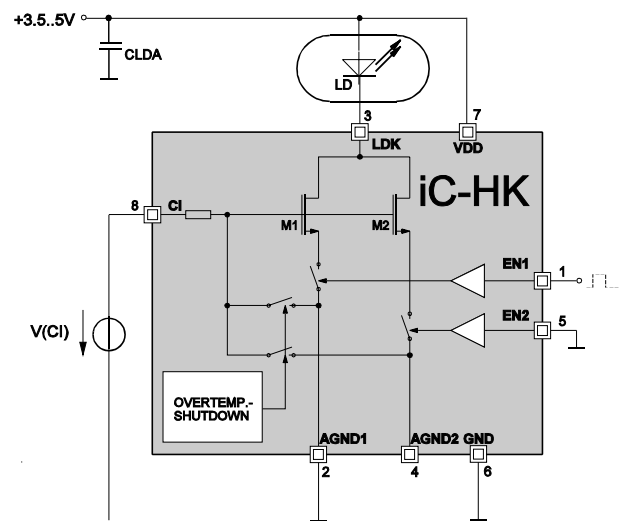
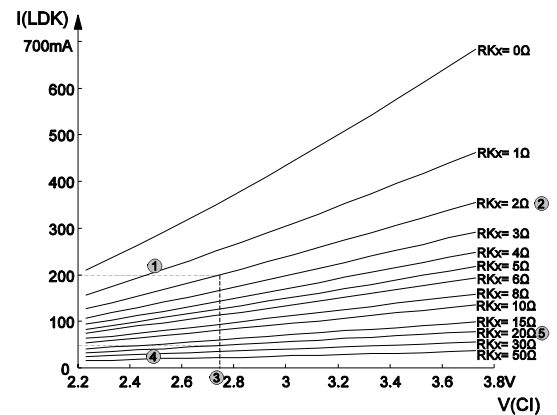

Fig. 3: Circuit with iC-HK for Example 1 - pulse current of 100mA
Fig. 4: Determining $V(CI)$ for Example 2 and 3
With the circuit shown in Figure 3 and a voltage of 1.75V at pin CI the laser current can be switched between typically 0mA and 100mA by applying an appropriate pulse pattern to EN1.
3. As shown in Figure 4 (cf. data sheet, Figure 3), an RK2 value is selected for $I(LDK) = 200\text{mA}$ and the corresponding voltage $V(CI)$ then determined - e.g. $RK2 = 2\Omega$ und $V(CI) = 2.75\text{V}$
4. Again as shown in Figure 4, the appropriate value of RK1 is determined for $I(LDK) = 50\text{mA}$ and $V(CI) = 2.75\text{V}$ as $RK1 = 20\Omega$
4. As shown in Figure 3 of the data sheet the corresponding value of $RK1$ is read off at ca. 9Ω for $I(LDK) = 100mA$ and $V(CI) = 3V$